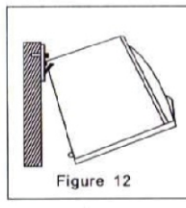

Figure 12
(4) Fit the organism into the claddings(shown in figure12)